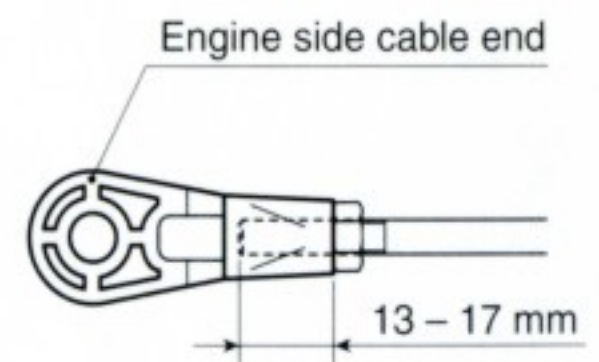

Fig. 20
- For the remote control cable end on the engine side, the thread engaging depth shall be 13-17 mm. (See Fig. 20.)